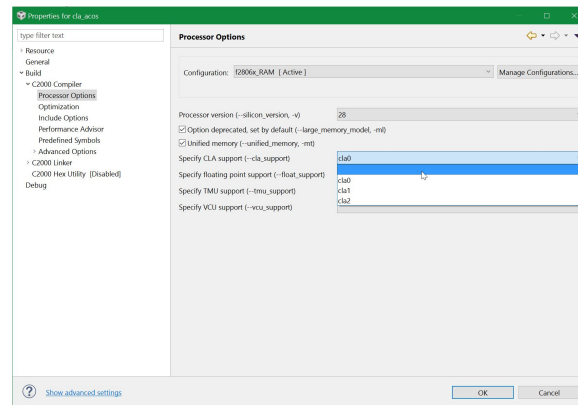

Figure 4.6: Turning on CLA support
3. Select the proper CLA type compiler support. Enable the `-cla_support` option in **Processor Options** as shown in Fig. 4.6